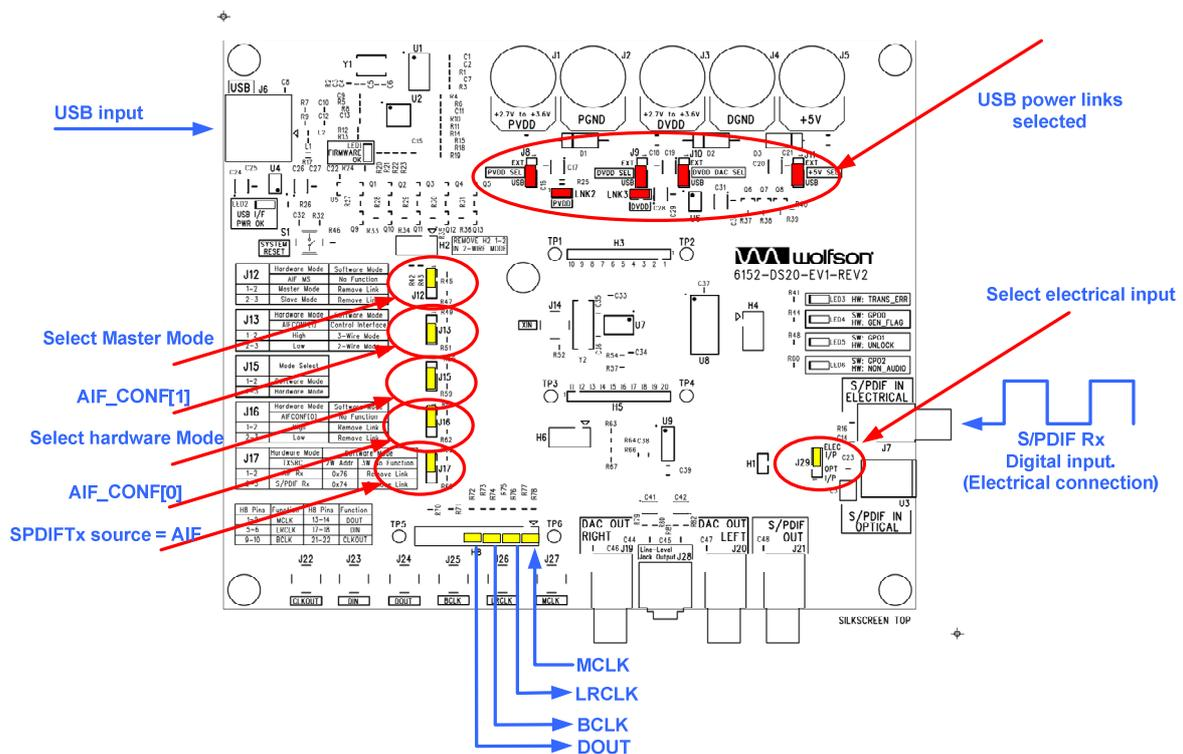

Figure 2 RX0 Input Path to Audio Interface Evaluation Board Configuration
- Figure 2 illustrates the jumpers which must be made on the board.
The jumpers, input signals and output signals are shown in Figure 2. The yellow jumpers are those that are required. The red jumpers are for power connections.